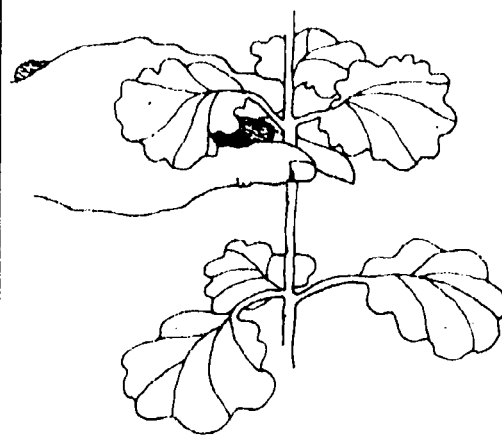

Figure 1. Using a sharp knife, make a basal cut below the nodes.
2. Collect the plant cuttings from ivy geraniums or similar flowers. Take each cutting from a young, healthy plant. Using a sharp propagating knife, make a basal cut below the nodes (see Figure 1). (Discuss why a sharp knife is used.) Do not allow the cuttings to dry out.